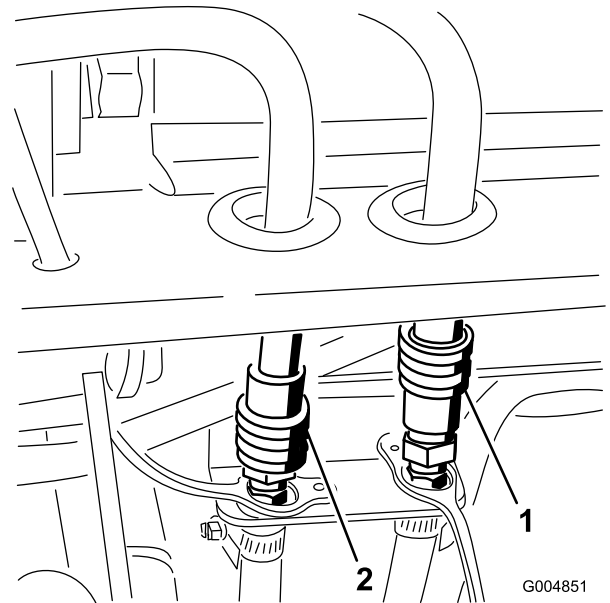

Figure 127
41. Connect the cab pressure and return hoses to the quick couplers on the rear frame mount (Figure 127).